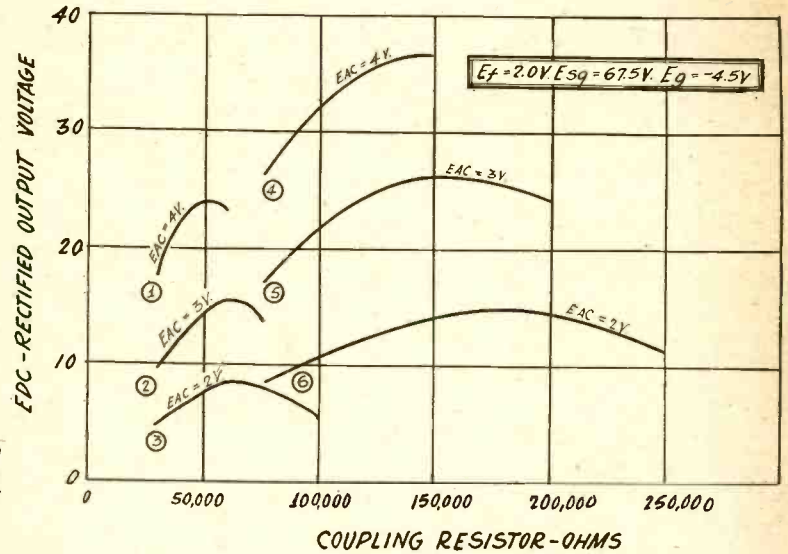

Fig. 2
Fig. 2 gives six curves showing the relationship between the rectified output voltage and the load resistance for different effective AC input voltages. It will be noticed that in each case there is one value of resistance which gives the greatest output, and that this resistance is higher the lower the effective AC input voltage. There are two groups of curves (1), (2), and (3), for no resistance in the screen circuit, and (4), (5), and (6) for a screen circuit resistance of 100,000 ohms. In each case the maximum output is greater when there is a resistance in the screen circuit, and the adjustment is less critical.